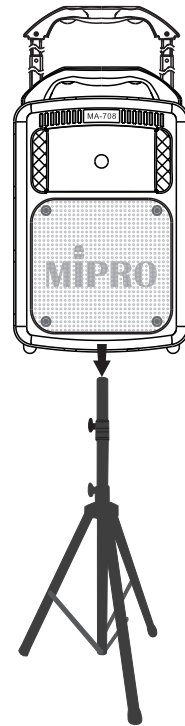

Fig. 4: MA-708 set up on a tripod
7. This system can be hand-carried, dragged and set up on a speaker tripod. Fig. 4